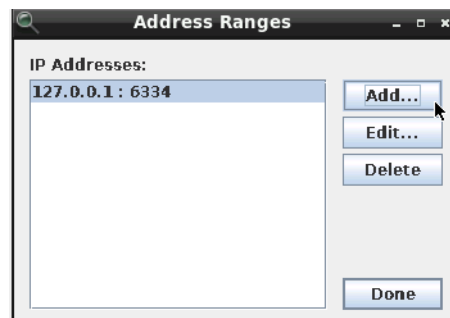

Figure 6-17. Address Ranges Dialog Box
1. Select **Network >> Address Ranges** to open the Address Ranges dialog (Figure 6-17).